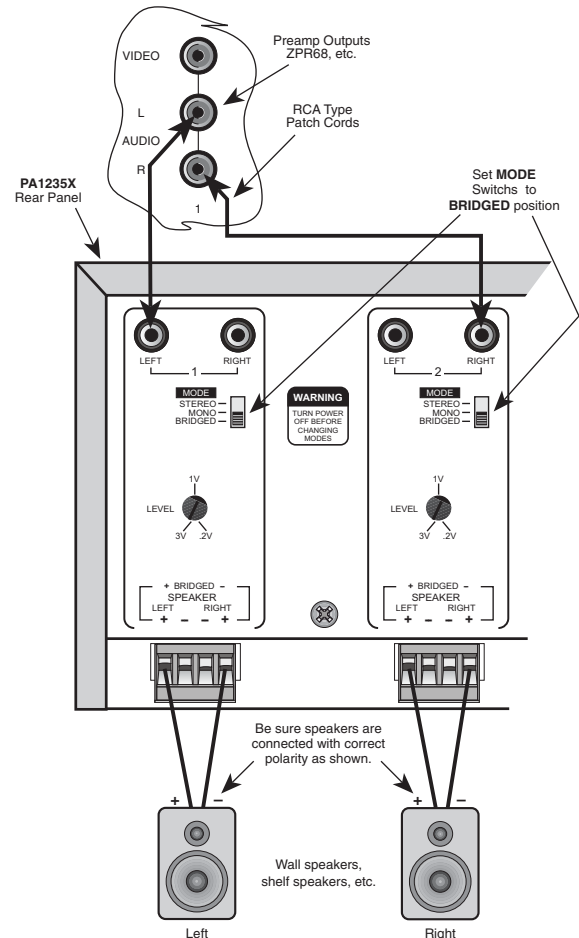

Figure 6 – Bridged Mode Connections
1. You may connect the RCA-type patch cables from the OUTPUT jacks of the driving preamp or other source to either the LEFT or the RIGHT input jacks of the bridged pair, as shown in Fig. 6. Do this for just the amplifier pairs you wish to run in the bridged mode.
3. Connect one speaker wire pair between the 4-terminal "SPEAKER" connectors on the PA1235X and the speakers as shown in **Fig. 6**. Be sure to use only the two outer terminals marked "+" and "-" on the 4-terminal connector as shown on the panel for BRIDGED connections.
No sound from CH2, CH4 or CH6 when stereo operation is desired.	BRIDGED/STEREO switch is incorrectly set to BRIDGED position. Set to STEREO position. See Fig. 6.